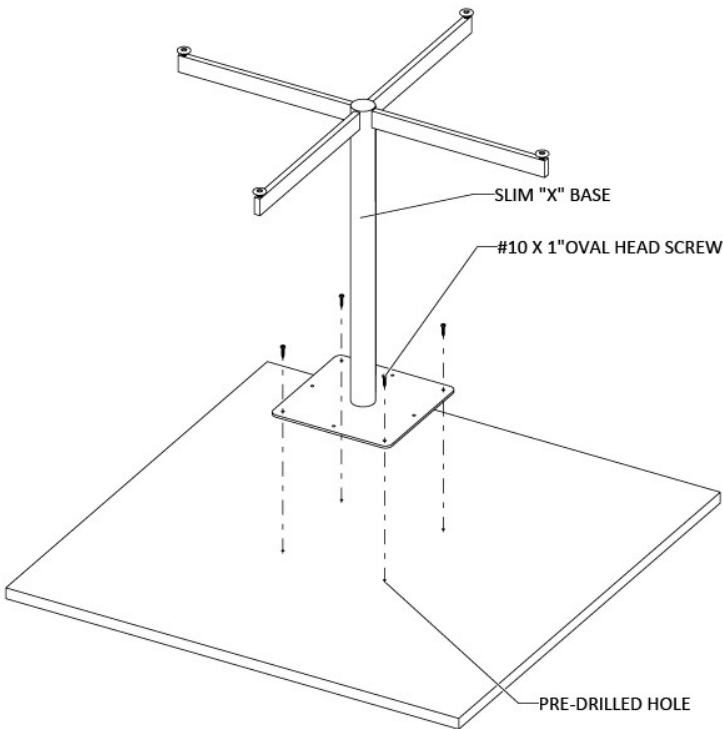

Figure 2
- Position the tubular “X” base using the pre-drilled positioning holes and attach it to square table top using #10 X 1” Oval Head Screws, (Figure 2).